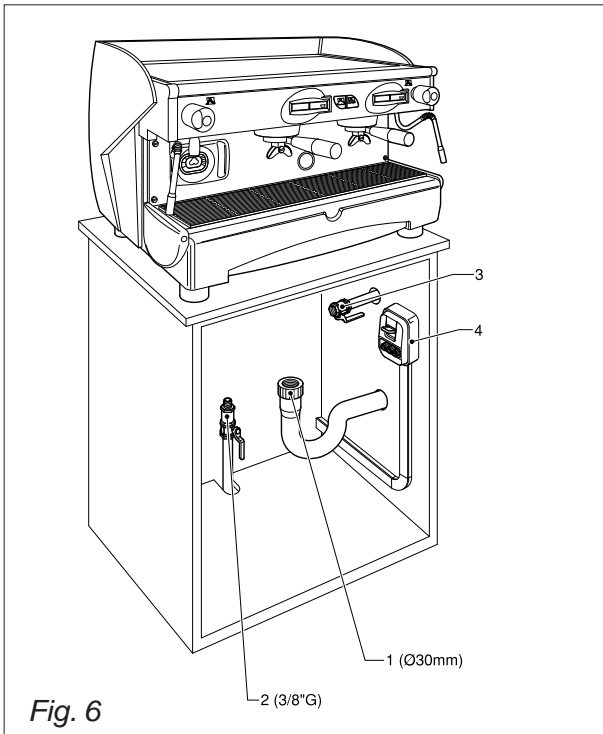

Fig. 6
##### 6.1.1. Water and gas supply (Fig.6)
In both cases it is necessary to provide an automatic differential switch (Fig. 6) at the start of the power cable, complete with magnetic release elements in accordance with the identification plate details (Fig. 1). The contact opening must be equivalent or over 3 mm.
- Turn on the water supply tap 2 Fig.6.
- Turn on the water supply tap 2 (Fig.6).
- Turn on the gas tap 3 (Fig.6).